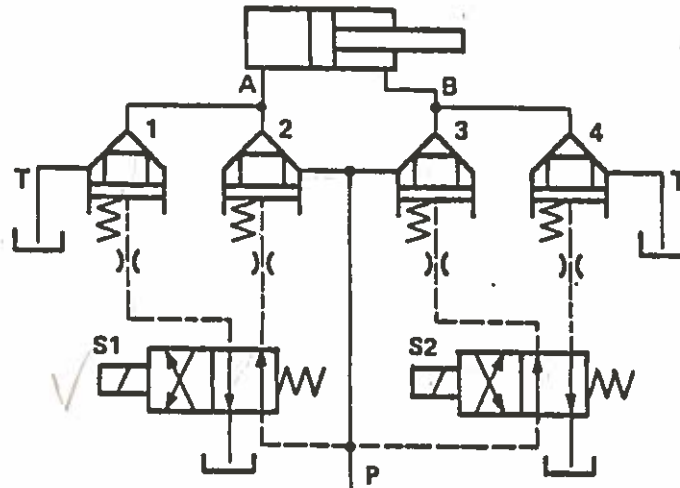

Figure 3
10. To provide a regenerative condition in the circuit as shown in Fig. 3, solenoids: